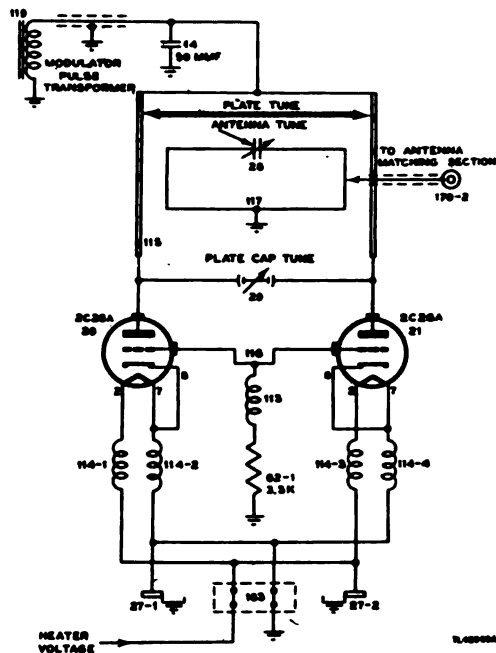

Figure 13. Transmitter, r-f oscillator circuit.
**a. General.** The r-f oscillator uses two 2C26A tubes, 20 and 21, in a tuned-plate, tuned-grid circuit operated in push-pull (fig. 13). At the frequency of operation, conventional inductors or capacitors would have to be so small in size that their use would not be practical. In addition, the skin effect in the coils introduces resistance which reduces the Q of the oscillator. To overcome these difficulties, the tuned circuits in the r-f oscillator are made of transmission lines. The inductance of a transmission line, a quarter wavelength or less, shorted at the end away from the tube, together with its distributed capacity and the interelectrode